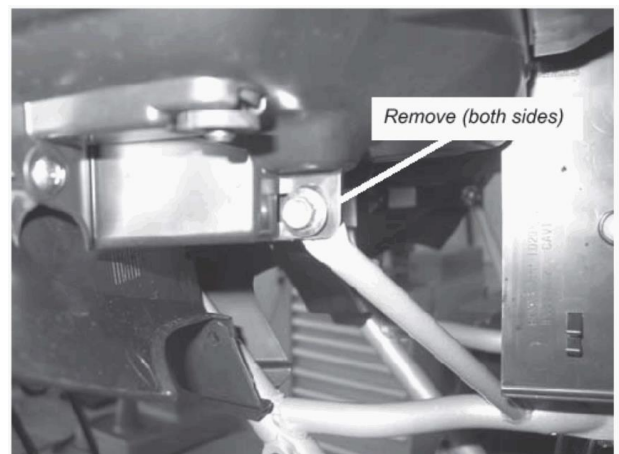

Figure 3 Front Bumper Bolts
3. Remove the (2) 6mm bolts that attach the front bumper to the plastic headlight assembly, “Figure 3”